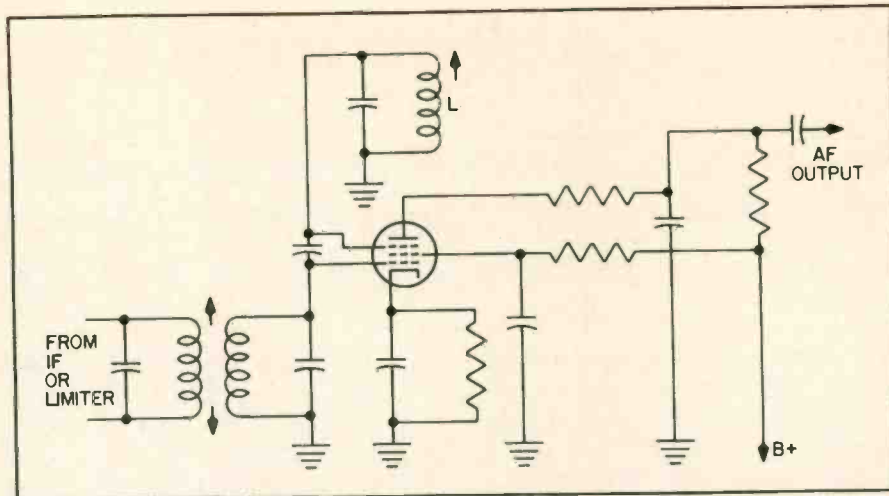

Fig. 5--Gated beam FM discriminator/limiter is adjusted by tuning coil (L) for maximum audio while receiving a signal.
Essentially all early FM mobile receivers employed the familiar Foster-Seeley discriminator which every technician should know how to adjust. Then came the Bradley detector which worked well, but to adjust it an FM signal generator and scope were required. Much later, the gated beam detector (6BN6, etc.) was introduced and many technicians condemned it not knowing that it is easy to adjust and probably one of the best FM detectors (Fig. 5). No instruments are required. Just tune the quadrature coil (L) for maximum audio recovery when receiving a signal.